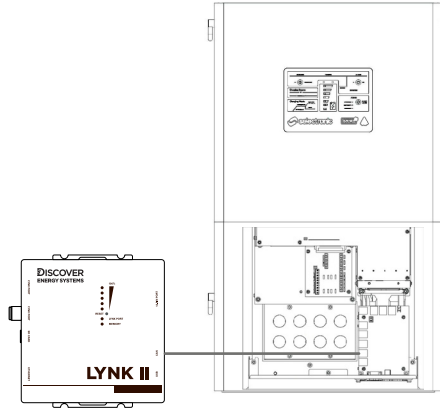

Figure 4. Selectronic CANopen Connection
2. Using a USB cable with a Type-B mini-plug, connect the 64-bit Windows 10 / 11 device running LYNK ACCESS software to the USB port on LYNK II. Ensure LYNK II is powered and connected to the correct Selectronic COM port. Refer to Figure 4. Selectronic CANopen Connection.